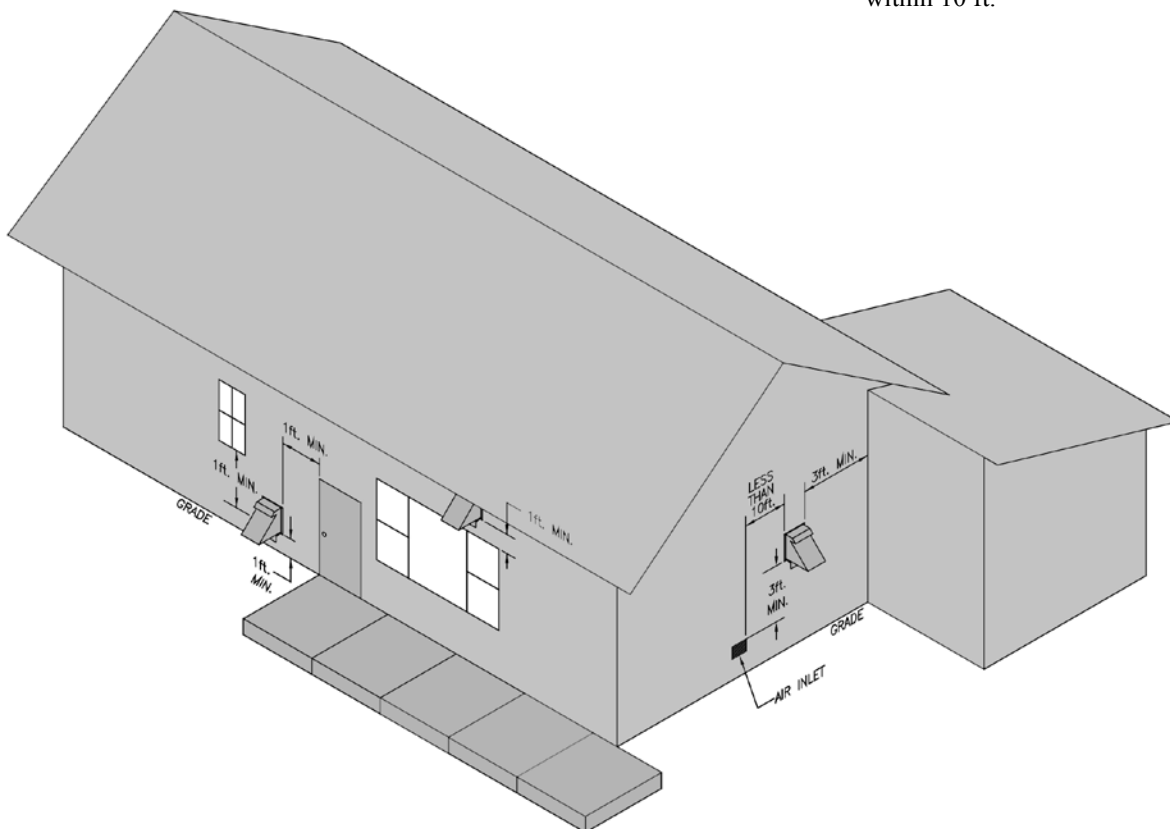

Figure 16: Vent Terminal Location
5. Locate the vent terminal so vent pipe is short and direct, and, at the place on exterior wall that complies with the minimum distances as specified in Figure 16 and listed as follows. The vent termination must be located (as measured to the bottom of vent terminal):